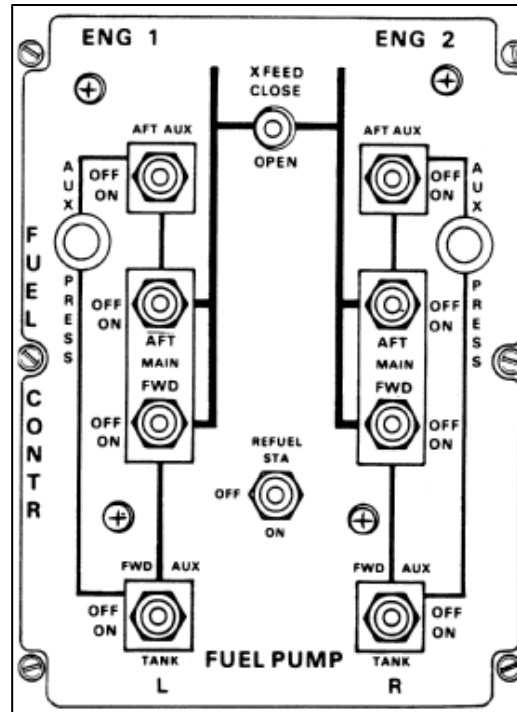

Figure 5. Fuel Control Panel
29. Turn ON "REFUEL STATION" switch on cockpit Fuel Control Panel (Figure 5).
37. Turn PWR switch on Refueling Panel (Figure 5) OFF.